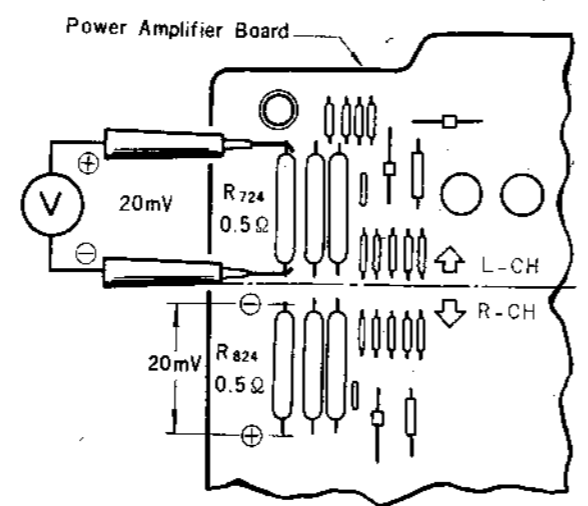

Fig. 4-6 Emitter Voltage Measurement of Power Transistors
Caution: To avoid accidental power transistor damage, increase the ac line voltage gradually, using the variable transformer, while measuring the voltage drop across the emitter resistor R724 (0.5 ohm). Be sure that the reading does not exceed 20 mV. See Fig. 4-6.
- Connect the dc voltmeter across the emitter resistor R724 (0.5 ohm) as shown in Fig. 4-6.